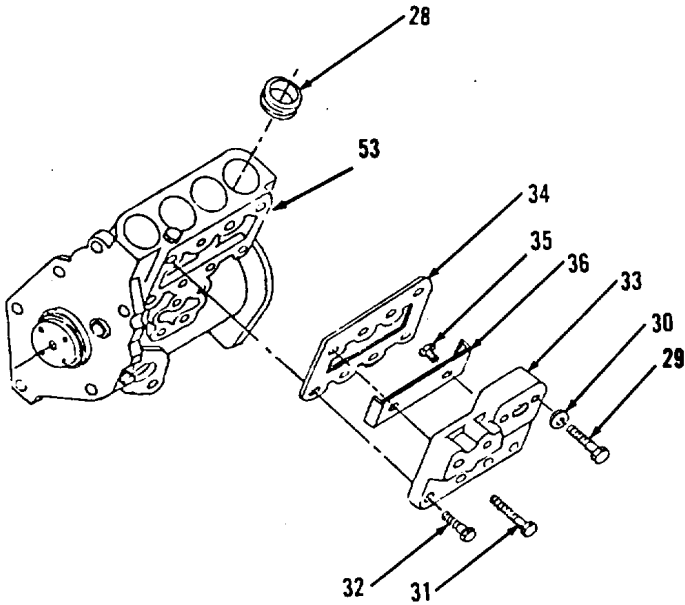

Figure 3-90.
- 19. Install deflector (36) and two bolts (35) on cover (33, Figure 3-90).
- 20. Position new gasket (34) and cover (33).
- 21. Install four bolts (32), two bolts (31), washers (30) and bolts (29).
- 22. Install four spacers (28).